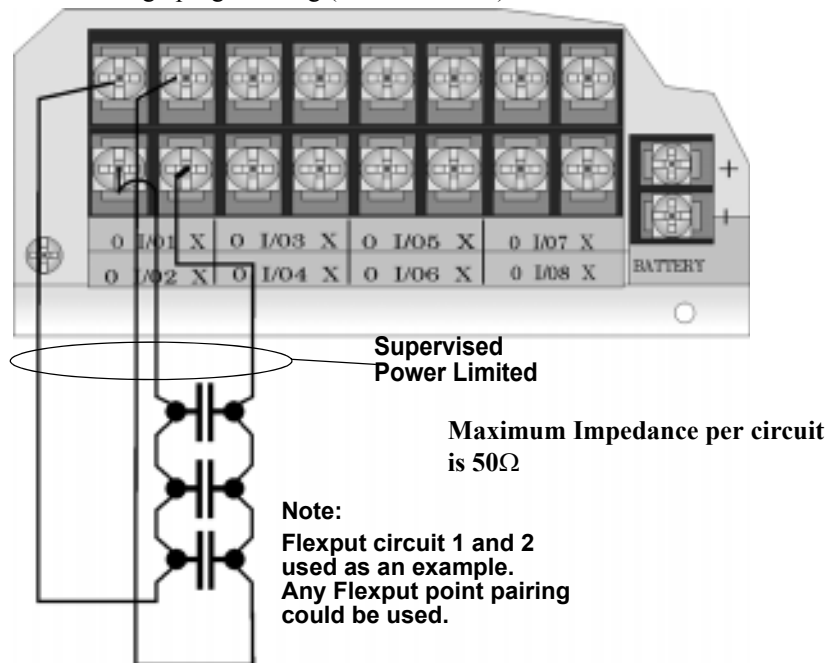

Figure 4-35 Class A initiating Switches
- Wire the Class A switch as shown in Figure 4-35.
Note: In programming any point that uses multiple Flexput circuits, the lowest Flexput circuit number is used to refer to the circuit pair. For example, Figure 4-35 uses both Flexput circuit 1 and 2, so in programming it would be referred to as point 1.